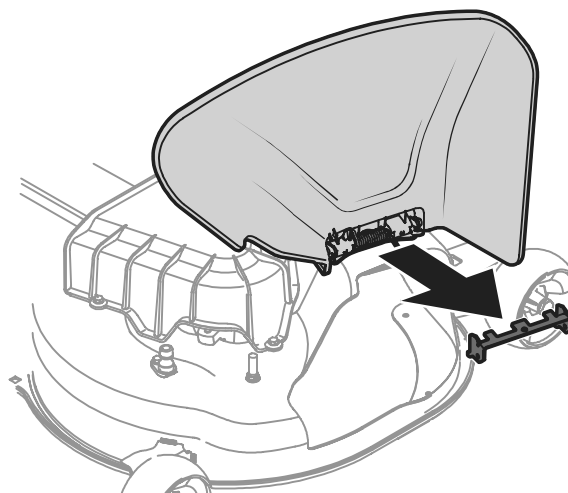

Figure 11
2. Holding the chute deflector fully upward, remove the stop bracket. Lower the chute deflector and discard the stop bracket (Figure 11).